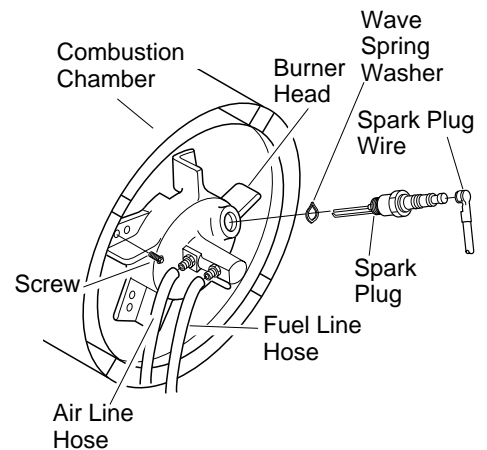

Figure 14 - Removing Burner Head
13. Install spark plug and wave spring washer in burner head. Torque 40 to 60 inch-pounds. Adjust (if necessary) to bring side electrode into the acceptable range (see figure 14).